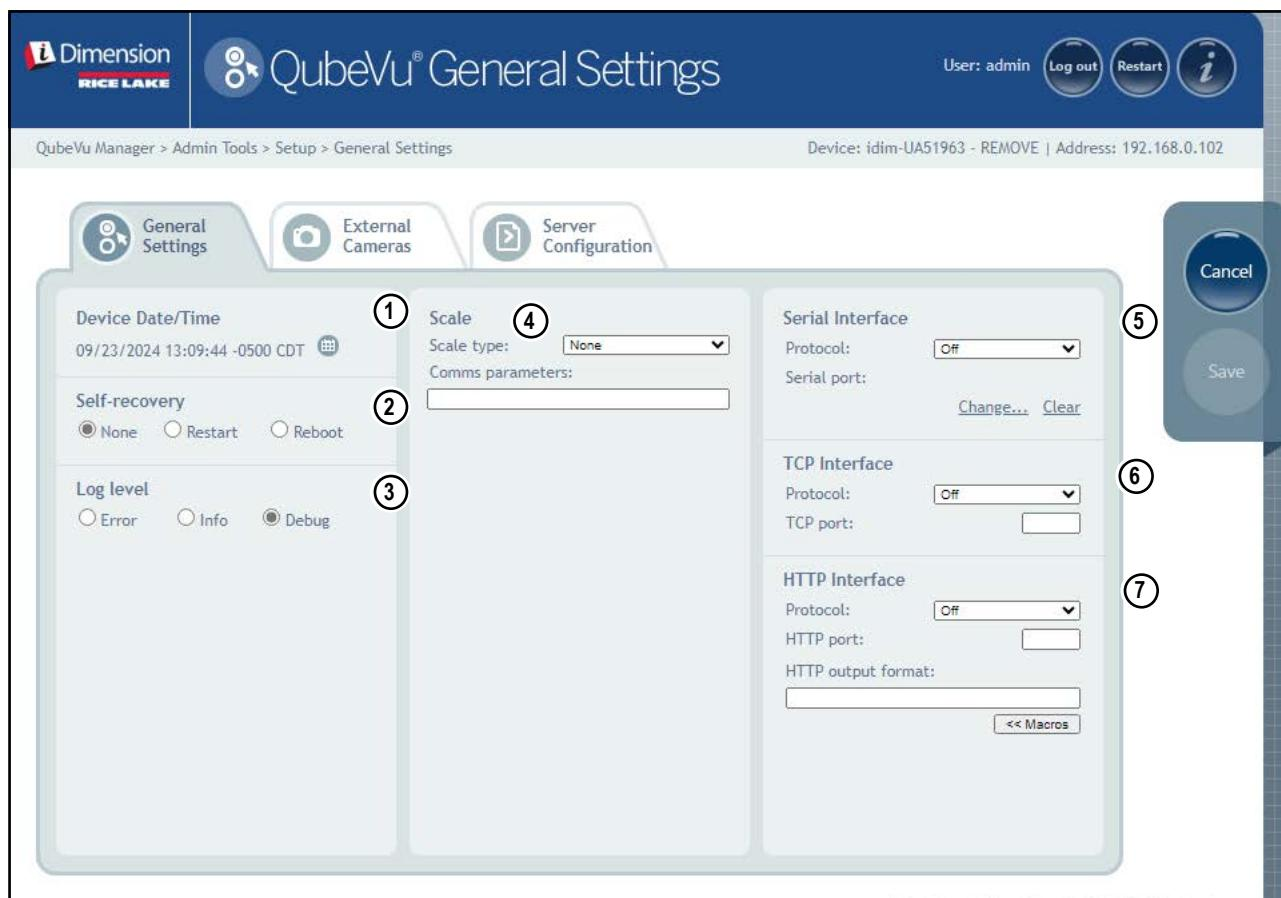

Figure 5-2. General Settings Tab
1. Select **QubeVu** or **Cubiscan 110/150** from the serial interface drop-down list (Item 5 in Figure 5-2 on page 24).